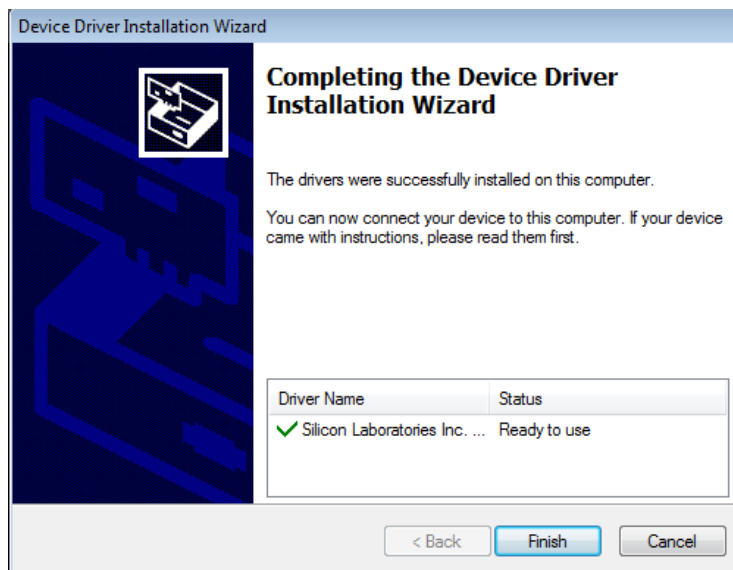

Figure 5: Driver Set-Up Success
4. Wait for the status screen to verify that installation is complete (see Figure 5).